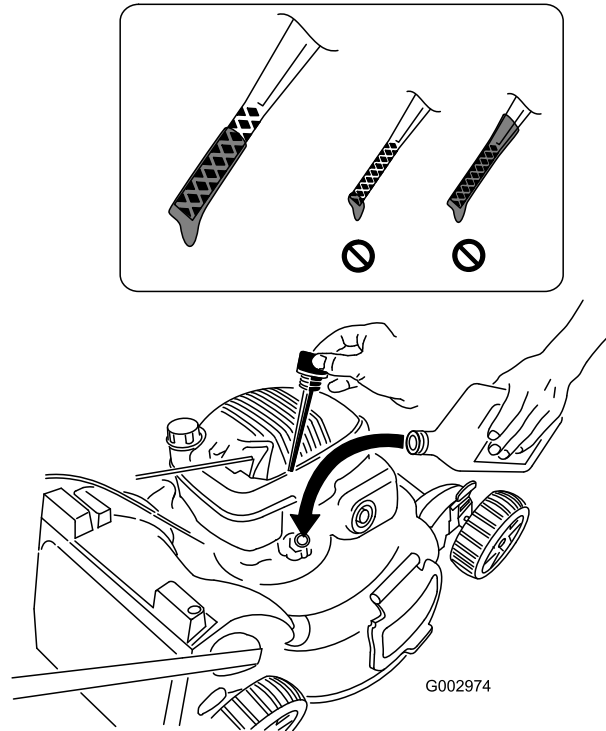

Figure 16
1. Remove the dipstick, wipe it clean, and fully install the dipstick (Figure 16).
2. Remove the dipstick and check the oil level (Figure 16).
If there is no oil on the dipstick, **slowly** pour oil into the oil fill tube, periodically checking the level with the dipstick, until the dipstick indicates that the engine is full as illustrated in Figure 16. **Do not overfill.** (Max. fill: 0.58 quart (0.55 l), type: SAE 30W detergent oil with an API service classification of SH, SJ, SL, or higher.)